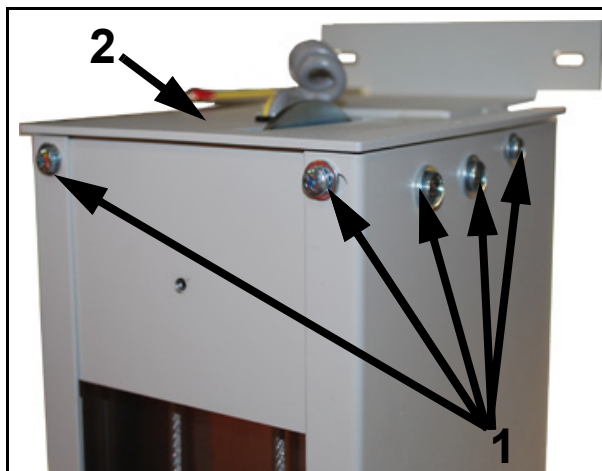

Figure 6-1. Top Cover Screws
- 3 Unscrew the eight top cover screws (1 in Figure 6-1) and remove top cover (2).